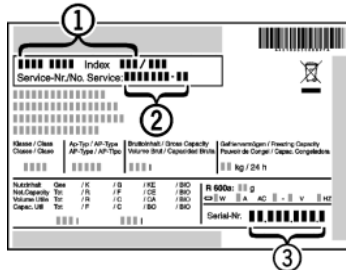

Fig. 18
- ▶ Read the appliance designation *Fig. 18 (1)*, service no. *Fig. 18 (2)* and serial no. *Fig. 18 (3)* from the rating plate. The rating plate is located inside the appliance on the left-hand side.
- ▶ Notify a qualified service provider, specifying the fault, appliance designation *Fig. 18 (1)*, service no. *Fig. 18 (2)* and serial *Fig. 18 (3)* no.